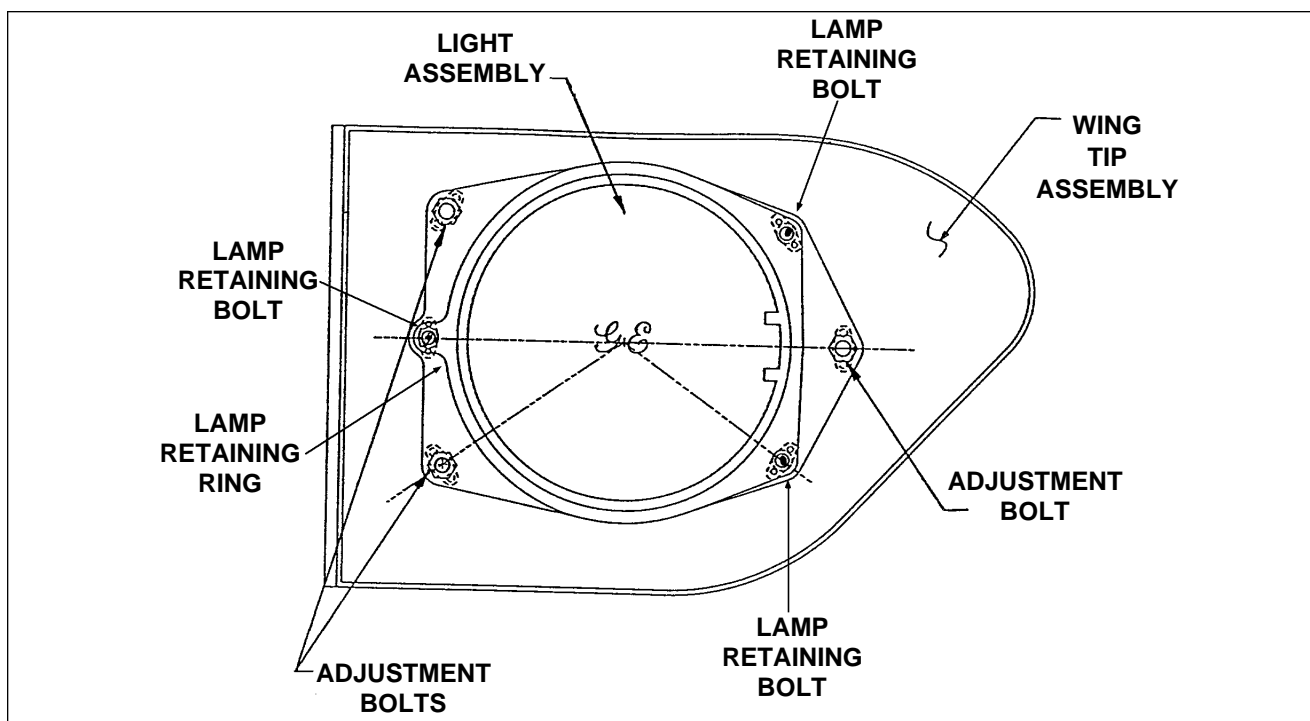

Figure 33-4. Archer III Landing Light Installation
- b. Remove the three *lamp retaining bolts*. Remove retaining ring. (Refer to Figure 33-4.)
- f. Adjust the three landing light adjustment bolts as necessary to move the landing light housing so that the center of the light beam illuminates the target wall at the following locations. (Refer to Figure 33-4.):
- (1) The left landing beam is centered at a point 32 ± 1 inches up from the floor.
- (2) The left landing beam is centered at a point $15 \text{ feet} \pm 3$ inches outboard from the airplane's centerline.
- (3) The right landing beam is centered at a point 32 ± 1 inches up from the floor.
- (4) The right landing beam is centered at a point $15 \text{ feet} \pm 3$ inches outboard from the airplane's centerline.